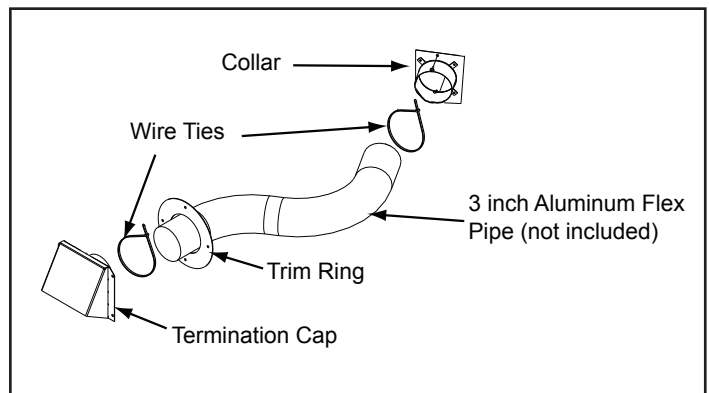

Figure 43.1 - Outside Air Installation
- Install as shown in **Figure 43.1.**